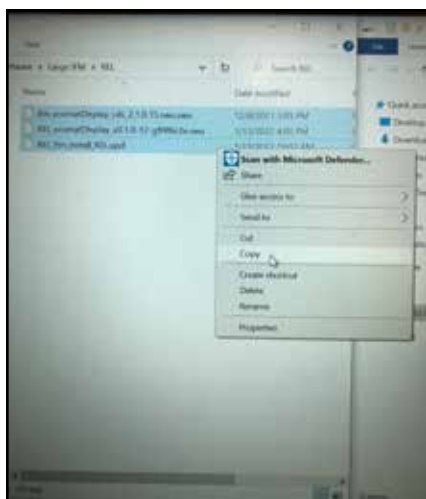

Figure 8
- Right click and select "Copy". See Figure 8.